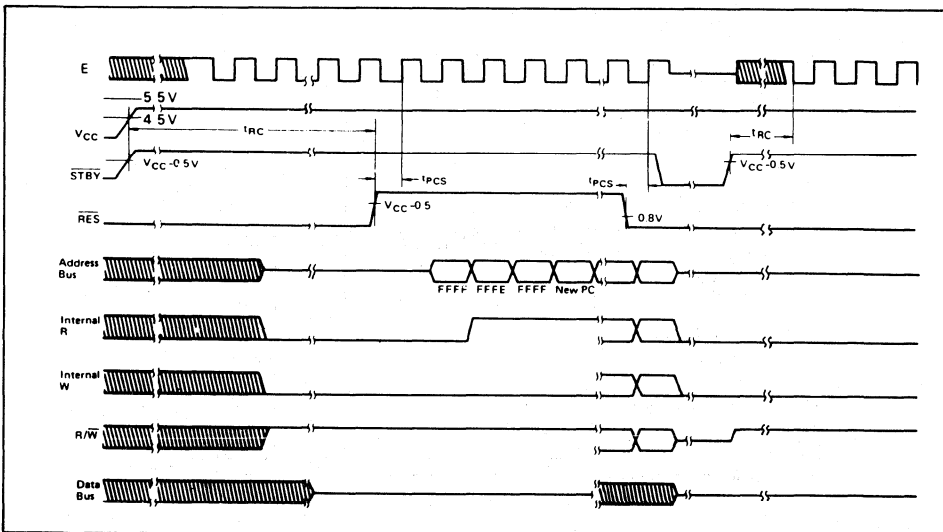

Fig. 2-8-1 Reset Timing
- (1) Latch I/O Port 2 bits 2, 1, 0 into bits PC2, PC1, PC0 of mode register.
- (2) Put the contents (=start address) of the last two addresses (\$FFFE, \$FFFF) into the program counter and start the program from this address. (Refer to Table 2-7-1)
- (3) Set the interrupt mask bit. For the CPU to recognize the maskable interrupts  $\overline{IRQ}_1$  and  $\overline{IRQ}_2$ , this bit should be cleared in advance. Fig. 2-8-1 shows the reset timing, and Table 2-8-1 shows the pin condition during reset.